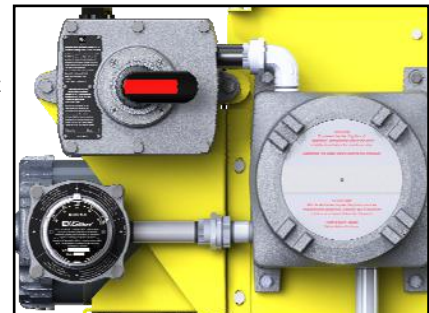

Figure 1
8. Heater may be supplied with a factory installed integral room thermostat with lockable temperature dial (See Figure 1). If a **remote explosion-proof room thermostat** is used, connection is to be made via the 3/4" NPT entry (entry "B" listed in the "Enclosure Entries" table on page 4). Refer to the thermostat installation manual and the wiring diagrams on page 9 to connect the remote thermostat.
10. For heaters supplied with a factory installed integral disconnect switch (See Figure 1), field wiring is as follows:
- a. Remove the Disconnect cover assembly from the base by removing the six (6) cover bolts. Set the cover assembly aside. **CAUTION:** Damaging the mating surfaces of the enclosure could destroy the flame path and jeopardize the integrity of the flame proof enclosure.
- c. Attach cover to the enclosure using the six (6) bolts. **Tighten to 150 inch-pounds ± 5 in-lbs.**